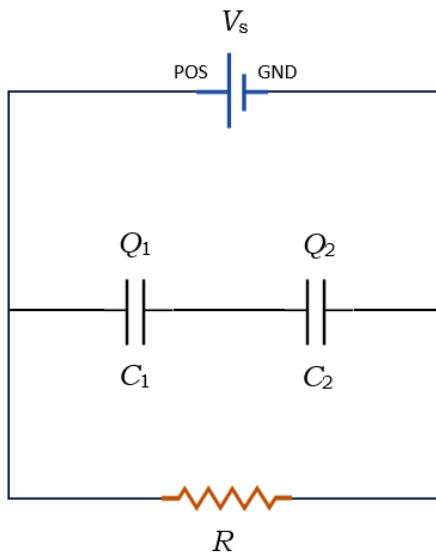
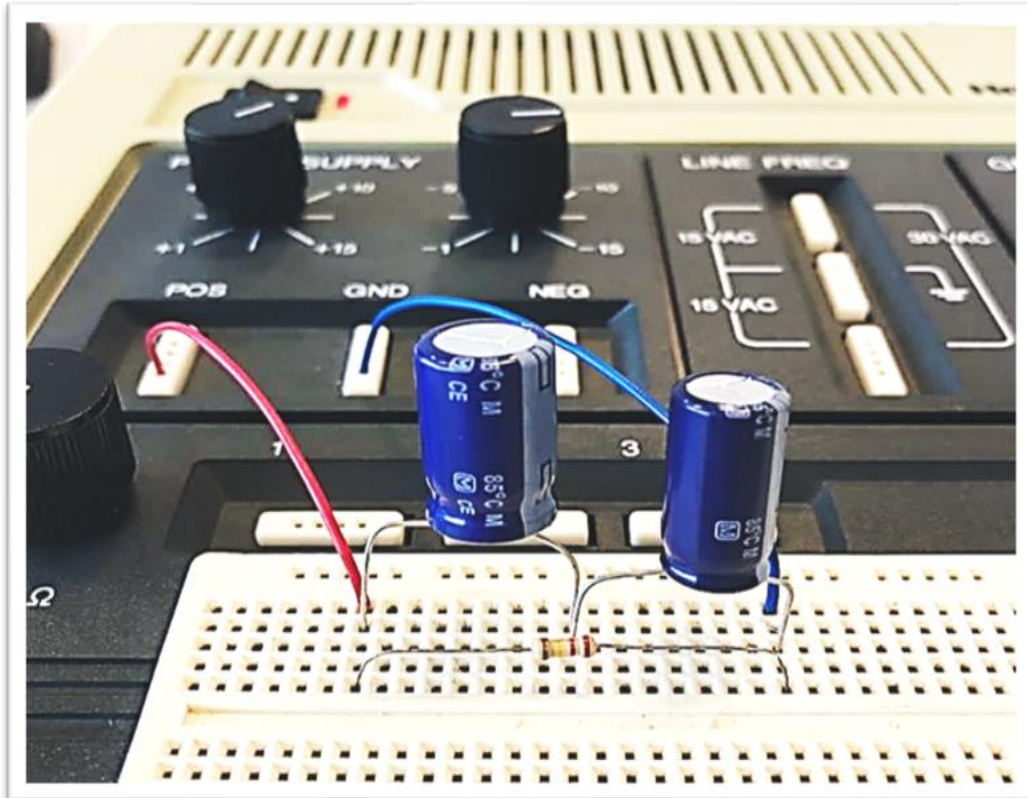

Fig. 3: Discharging circuit for the series capacitors network
Fig.5: Capacitors in series
To determine the equivalent capacitance for both series & parallel circuits, we utilize the process of discharging a capacitor through a resistor (that was studied in Exp. (6)). Therefore, a resistor is first connected in parallel to the circuits, as shown in **Figs.3 & 4**, then by measuring the time (t) needed for the voltage across the capacitors network to drop to a certain value (V_{Ceq}), and using the formula $V_{Ceq} = \mathcal{E}e^{-\frac{t}{\tau}}$ (where $\mathcal{E} = V_s$), the time constant τ , and hence, C_{eq} can be determined.
3. Connect the circuit given in **Fig.3** as shown in **Fig.5**. (**make sure that the negative leads of the capacitors are connected to the right as shown**).